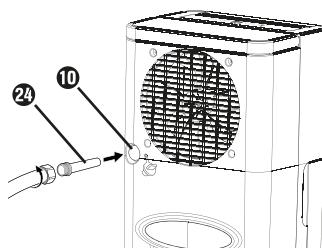

Fig. 5
- ◆ When using the EU garden hose adapter ②4, screw a garden hose onto the EU garden hose adapter ②4 (see figure 5).